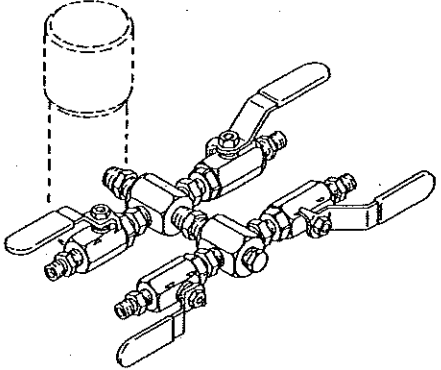

FIGURE 2.
- Multiple Gun Operation** - The **HYDRA M 4000™** is engineered to handle up to 4 guns. When using more than two guns, make sure the second gun hookup outlet is plugged. Connect the multiple gun manifold to the single gun outlet. These manifolds are for either 2, 3, or 4 guns and have shut off valves. Connect a hose and gun to each outlet. See Figure 2.